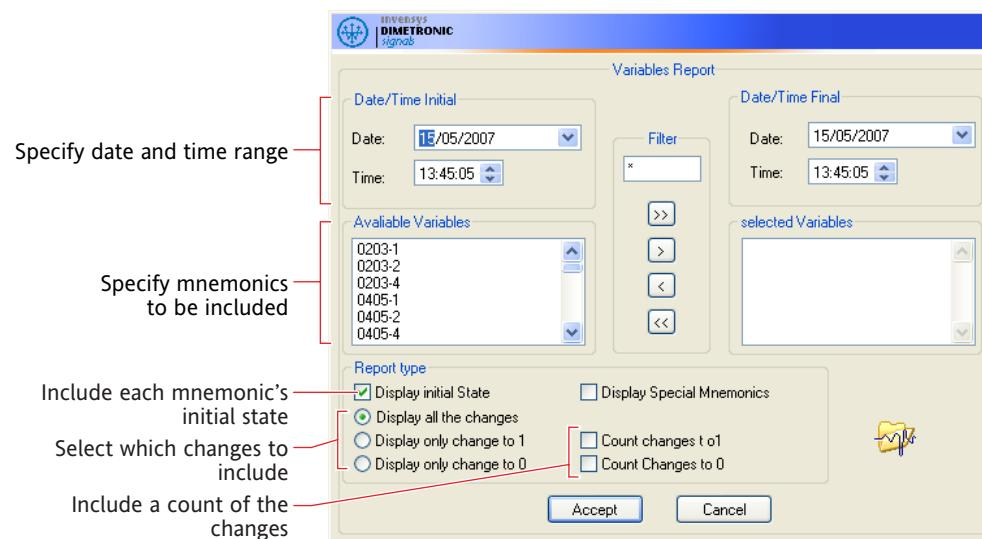

Figure 4.23 Changes of State Report dialog box
- e) In the Report Type area, specify the information and mnemonics you want included in the report (figure 4.23).